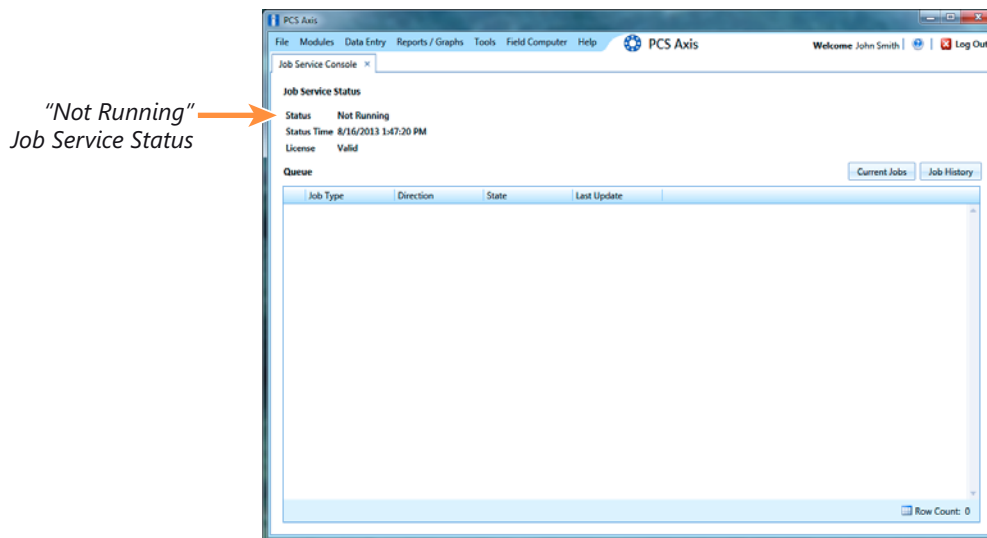

Figure 10-4. Job Service Status
If the message *Not Running* displays in the *Status* field of the Job Service Console as shown in the following figure (Figure 10-4), use the procedure in this section to restart the PCS Axis Job Service. PCS Axis Job Service monitors the job queue, initiating jobs as they become available.
- 5 In PCS Axis, verify the message *Running* displays in the *Status* field of the Job Service Console (Figure 10-4, page 448).